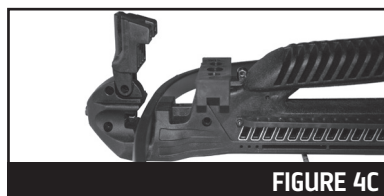

FIGURE 4C
3. Open the nose cone latch and insert the limb with the centered gray limb mark aligned with the middle of the nose cone. Ensure the string is resting above the arrow/flight track, as shown in Figure 4C.